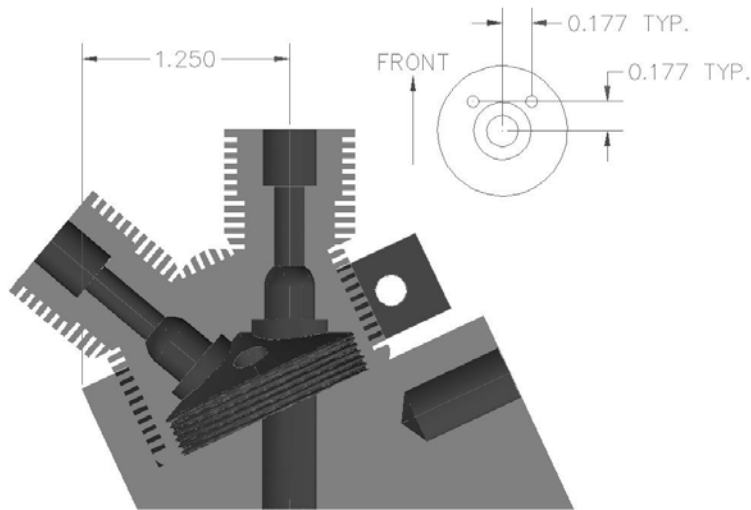

Figure 4
1. Locate tool CH2 without spacers in the mill as shown in Figure 4.